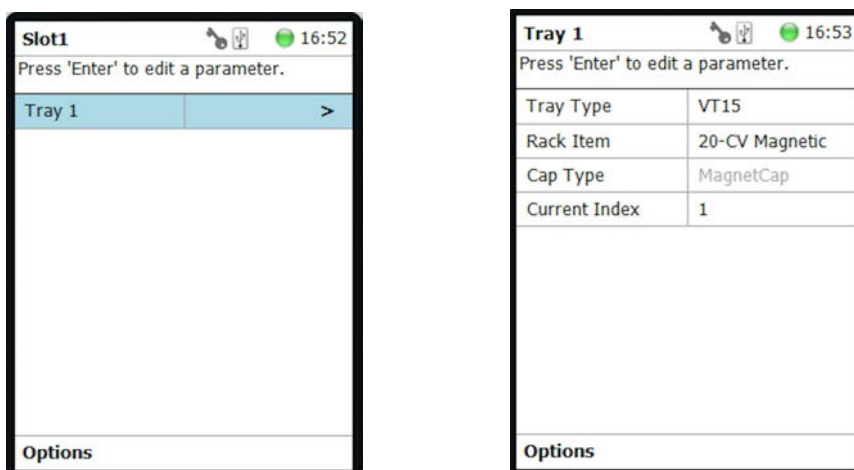

Figure 5-33. Setting up Tray 1 (left) and defining its properties (right)
The wizard provides a page as shown in Figure 5-33 (left).
4. Define the properties of Tray 1 as shown in Figure 5-33 (right).